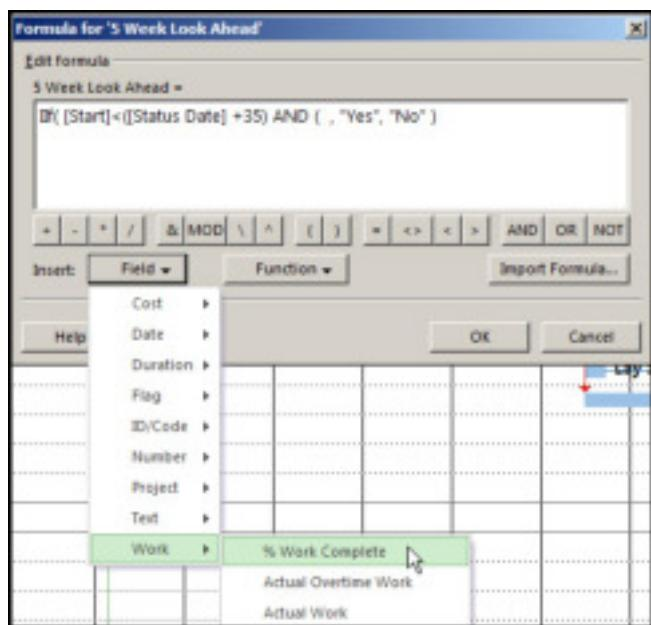

Figure 9
- I. Here we want to capture all tasks that have a start date less than the status date plus **21-days**, Figure 9.
- J. Also, in Figure 9, we insert the % Work Complete field into the formula. Only tasks that have a % complete less than 100, i.e. incomplete tasks, are captured. Completed tasks are filtered out. The final formula is in Figure 10, which will capture all tasks starting within **21-days** of the status date and all non-complete, i.e. in-progress tasks within this time period.